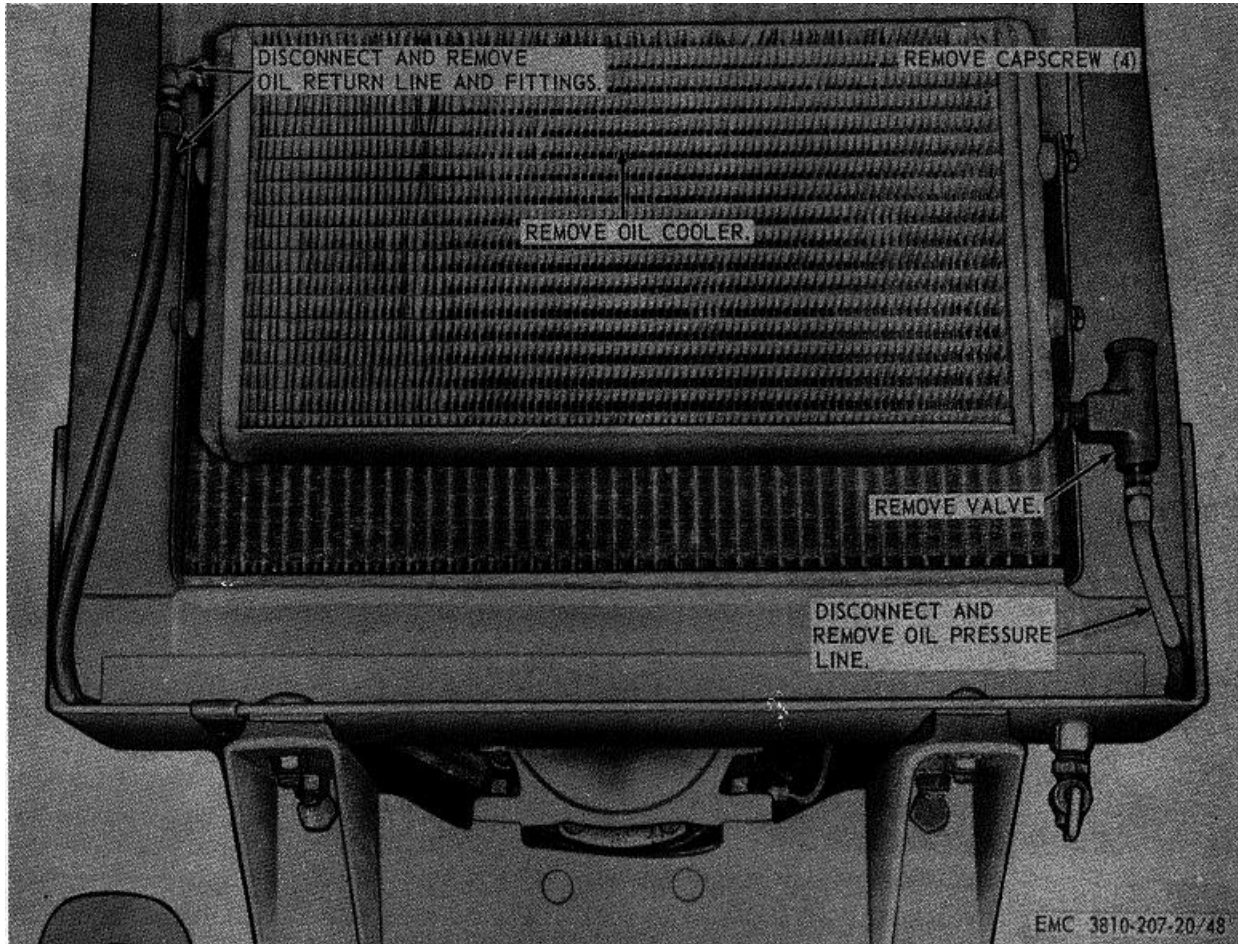

Figure 48. Oil cooler, removal and installation.
- (1) Drain the lubricating system (TM 5-3810-207-10).
- (2) Remove the oil cooler as instructed on figure 48.
- (1) Install the oil cooler as illustrated on figure 48.
- (2) Fill the lubricating system (LO 5-3810-207-20).